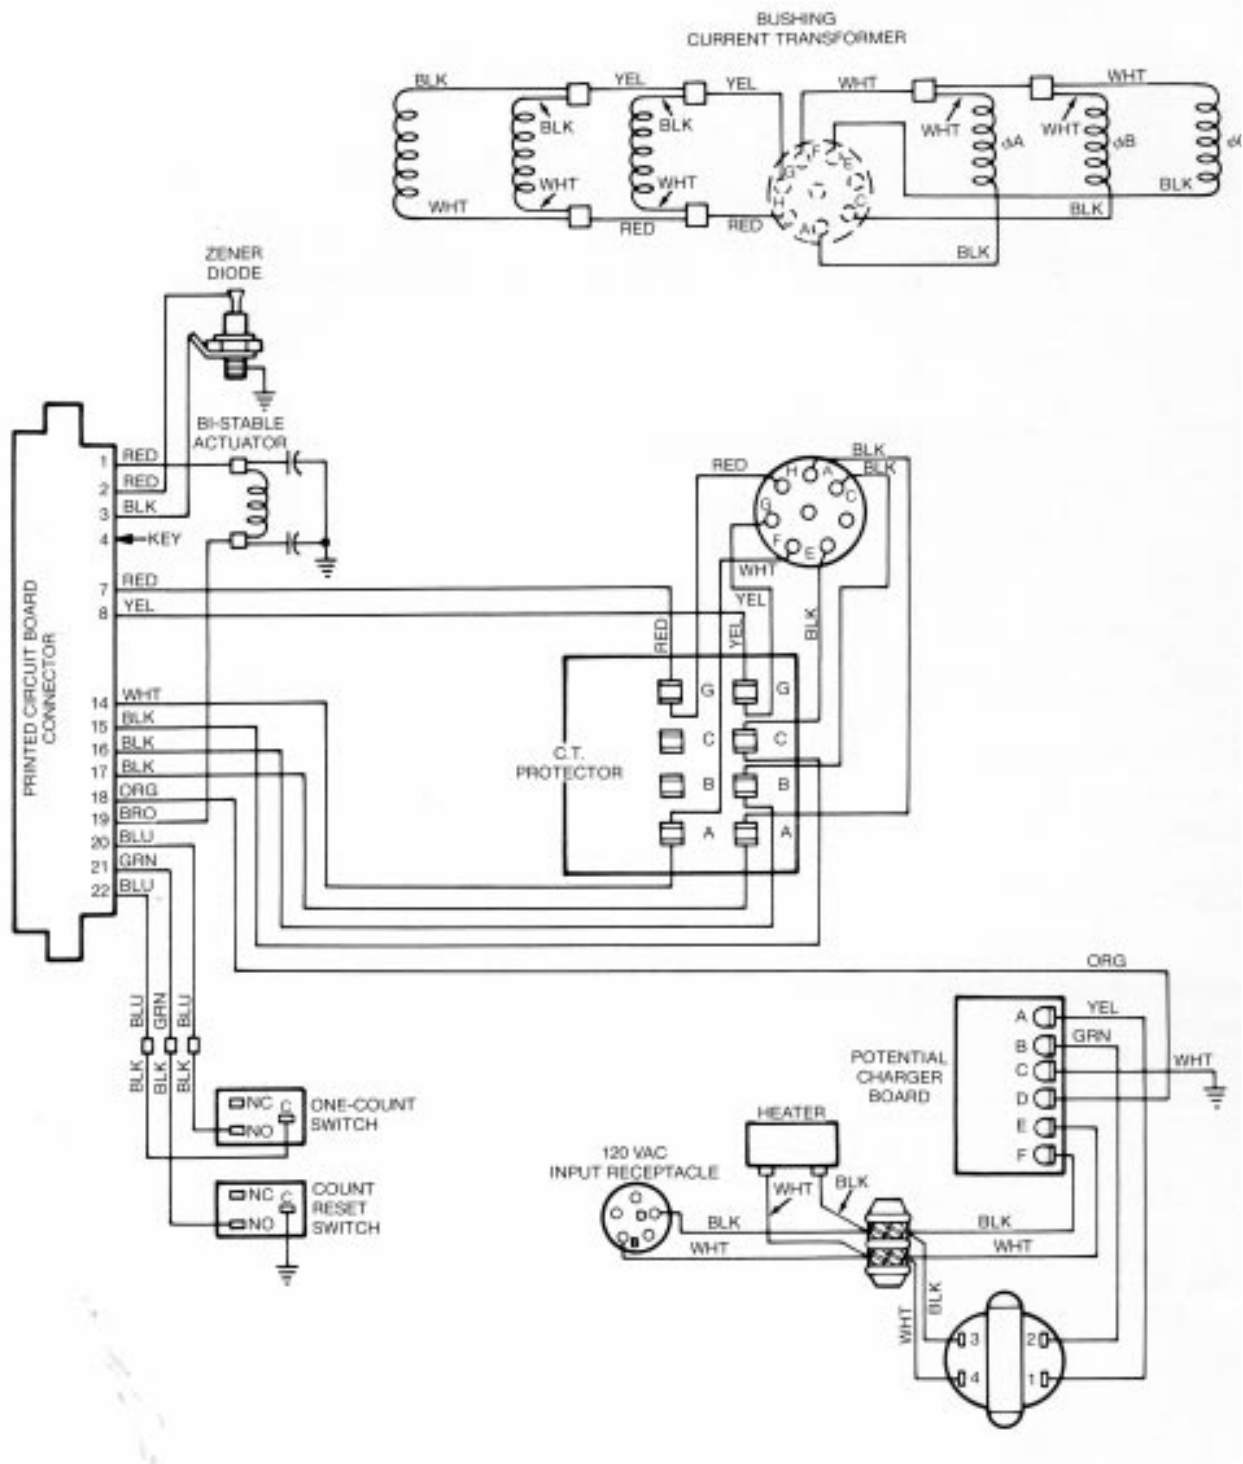

Figure 10.
1. Check for loose or broken connections and wiring. Figure 10 shows the interconnection between the various electrical components of the sectionalizer.